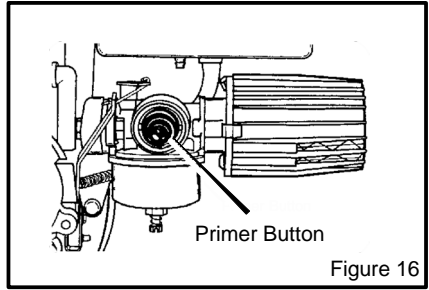

Figure 16
6. Some models have a primer button on the front or side of the engine (Figure 16). Every time you push the primer button, wait two seconds. For the number of times required to push the primer button, see the engine manufacturer's instructions.